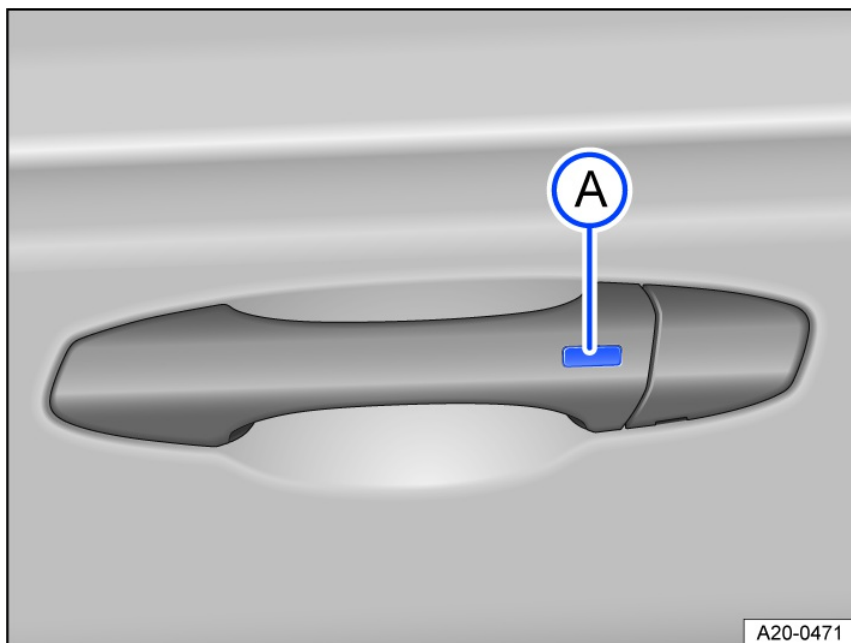

Fig. 47 In door handle: Button to unlock or lock.
1. Press button fig. 47 on the outside of the door handle.
2. Press button fig. 47 on the outside of the door handle.